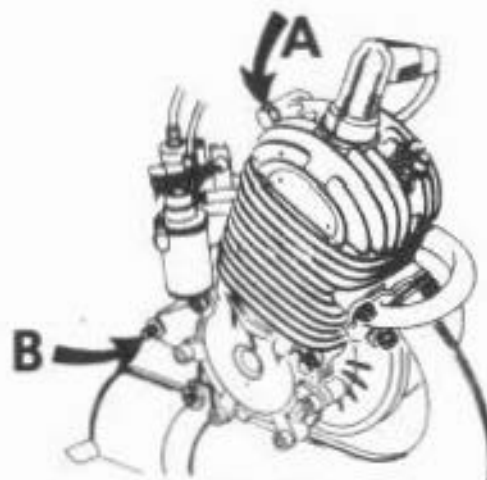

Fig. 8-1
- 2) Loosen upper motor mounting bolt "A" Fig. 8-1
- 3) Loosen lower motor mounting bolt "B" Fig. 8-1, on some machines loosen also the belt adjusters, "E" Fig. 8-3. The motor can now be pivoted to the rear on the upper mounting bolt slackening the drive belt.